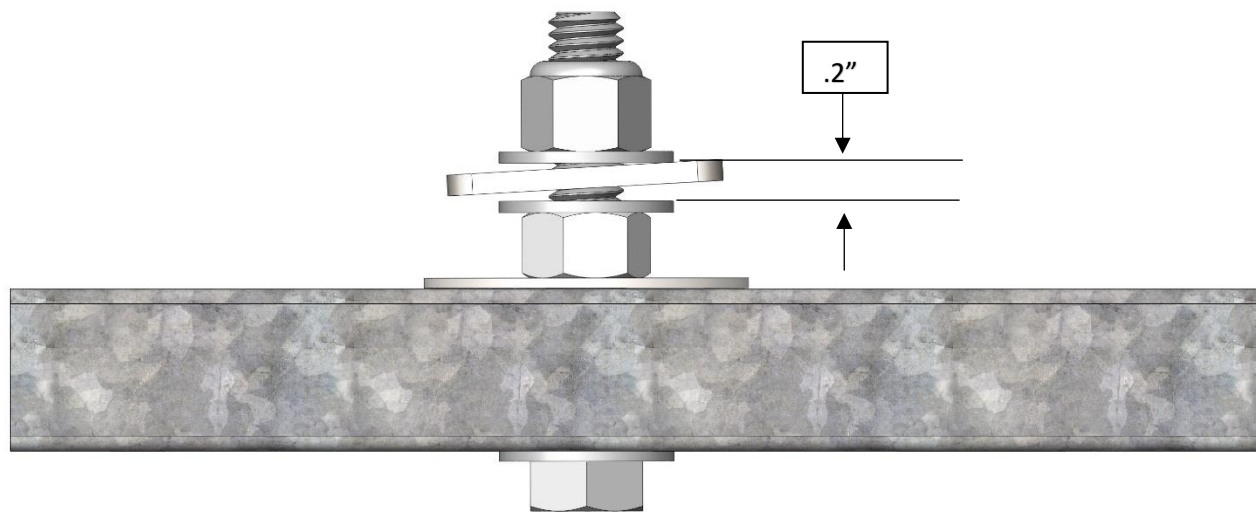

Figure 11: Upper tape mounting assembly
| Figure 11: Upper tape mounting assembly | 12 |
- Thread the Nylock nut onto the bolt until there is a .2" gap between the two flat washers that are on either side of the Tape Interlock bracket as shown in figure 11. This gap is required to relieve twist in the tape.